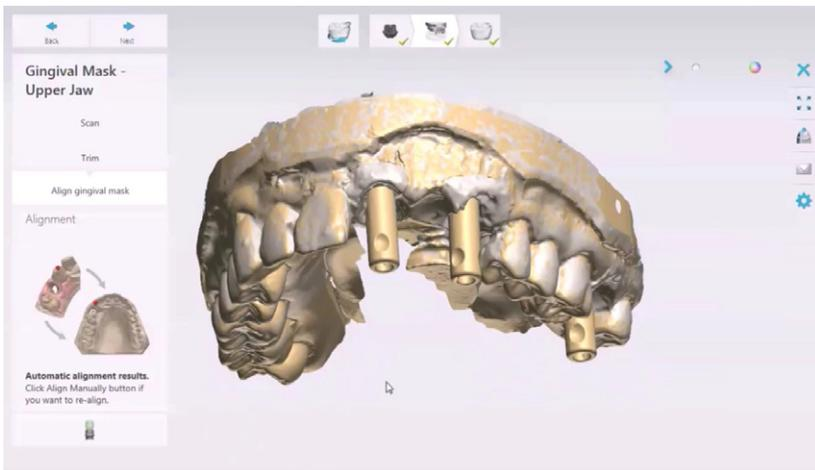

Fig. 7
2. The software will propose the initial design. The user can change the library selection to best fit the oral environment, followed by using 3Shape design tools to achieve optimal contours. (Fig. 7) It is suggested to perform the Pre-design function as close to final contours as possible, because the proceeding steps will be most efficient and allow for accurate design of the intaglio surfaces.